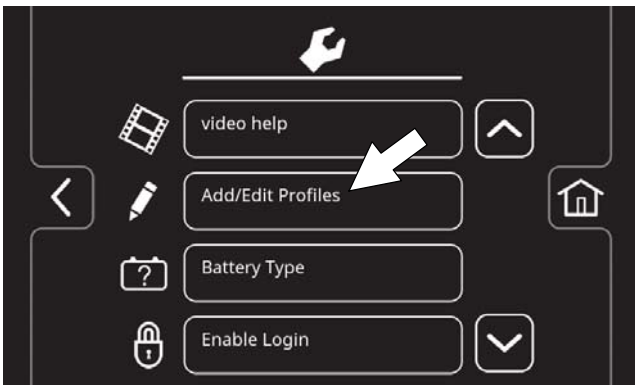

FIG. 179
2. Press the Add/Edit Profiles button (Figure 179).